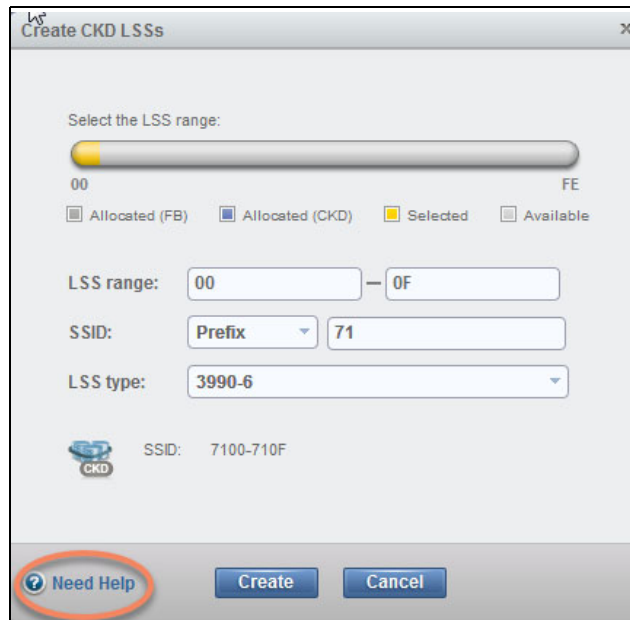

Figure 11-91 Defining CKD LSSs
- The Create CKD LSSs page opens, as shown in Figure 11-91. Complete the required information. After you enter the values for the LSS range, subsystem identifier (SSID) prefix, and LSS type, click **Create**. The Need Help icon displays information about how the unique SSID for each LSS is determined based on the SSID prefix that is provided.